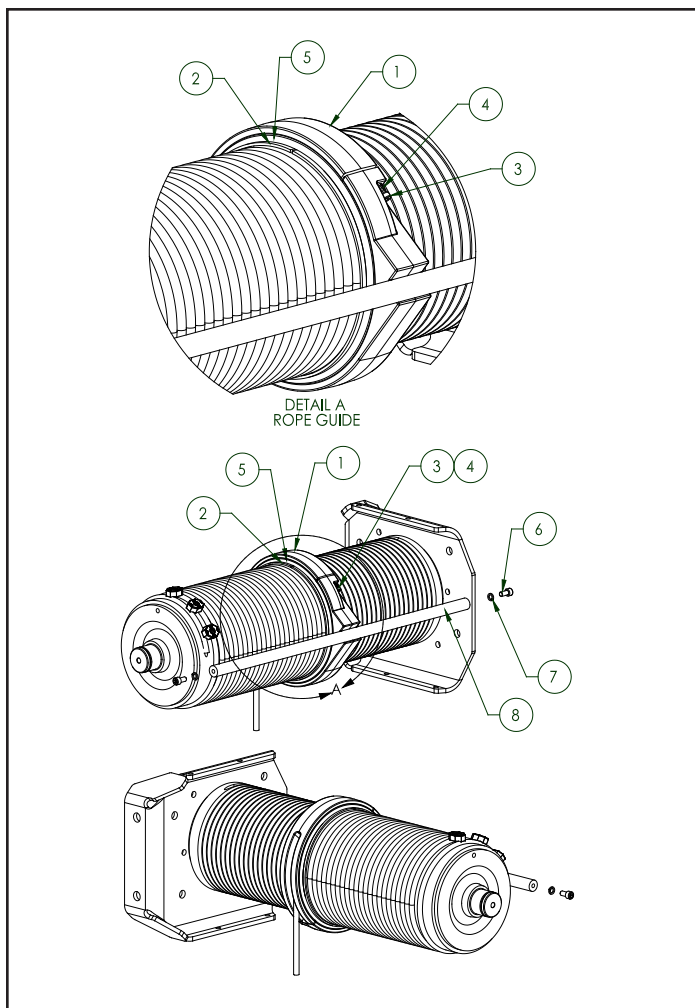

Figure 5-3a. Rope Guide Assembly ("B" & "C" Frame)
b) Disassembly for "B" & "C" Frame. Refer to Fig. 5-3a. For further assistance in locating components, refer to the parts list in Section IX.
- (1) Remove socket head cap screws and lock washers (Items 6 and 7). Remove drum frame rod (Item 8).
- (2) Remove shoulder bolts (Item 3) and compression springs (Item 4). The two halves of the rope guide body (Item 1) can now be pulled off the drum separately. When reassembling be sure that the half with the rope slot is on the top half of the drum.
- (1) Thread rope to drum from trolley frame side then secure with rope clamps as follows:
- (2) With all personnel clear of hoist - TURN ON POWER.
- (3) Operate hoist "UP" guiding six (6) wraps of new rope into drum grooves with gloved hand.
- (4) Reinstall rope guide over rope in rope drum grooves as shown in Figure 5-3a. & 5-3b. and outlined in Section V, Paragraph 5-5. Continue lubricating as rope is spooled onto the drum until about 28'-0" remain unwound.